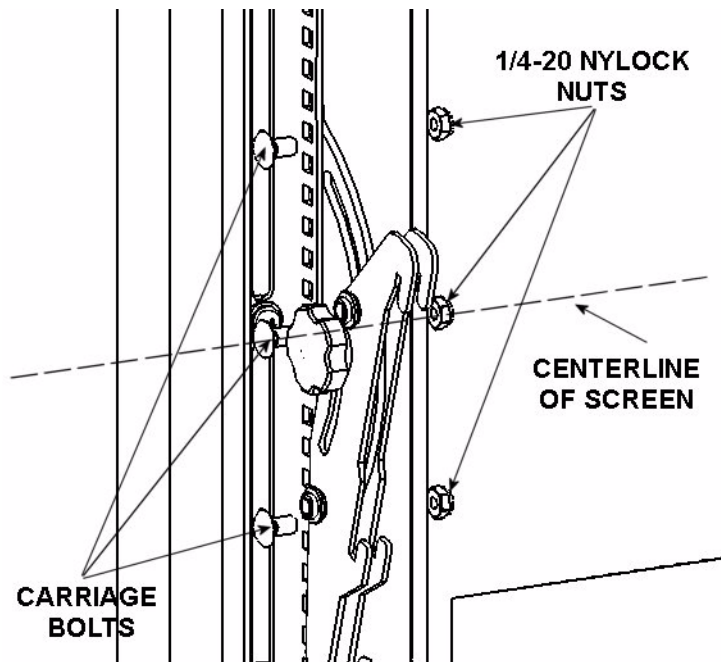

Figure 7. Attach Tilt Brackets
4. Using six bolts (230) and six Nylock nuts (240), attach the two tilt brackets (40) with the center hole of the tilt assembly as close to the center line of the display as possible (see Figure 7), positioning the assembly with the knob side toward the outside of the display.